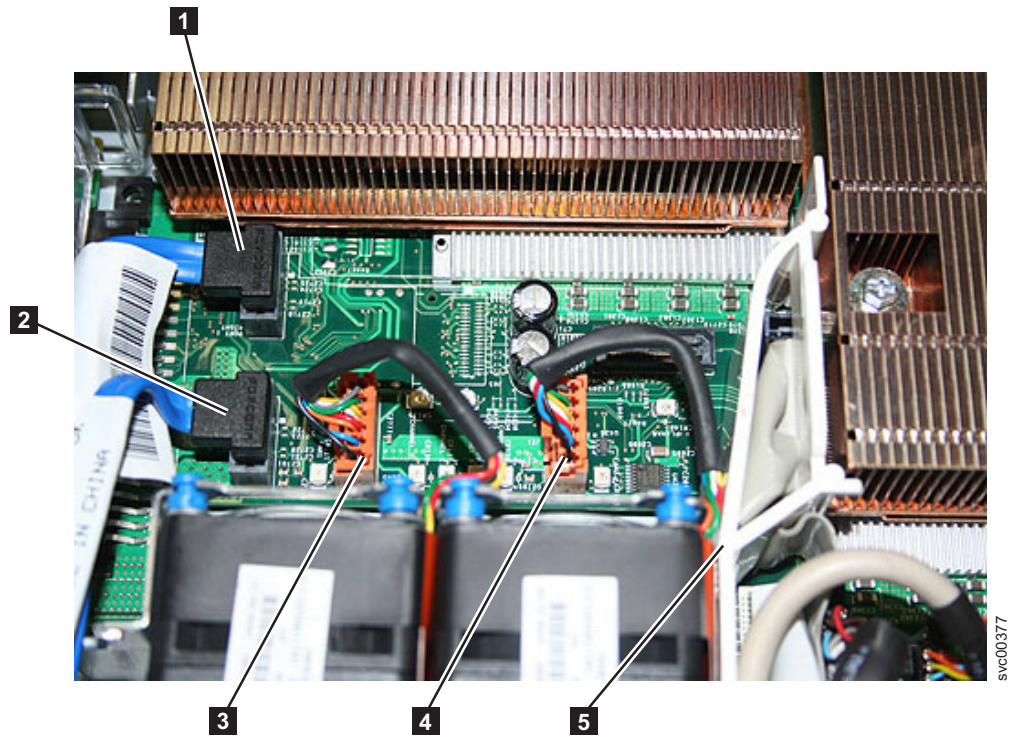

Figure 271. Connectors on the SAN Volume Controller 2145-8G4 system board
6. Disconnect the first set of cables from the system board, which are shown in Figure 271 on page 291. From the left front side of the system board, remove the following: